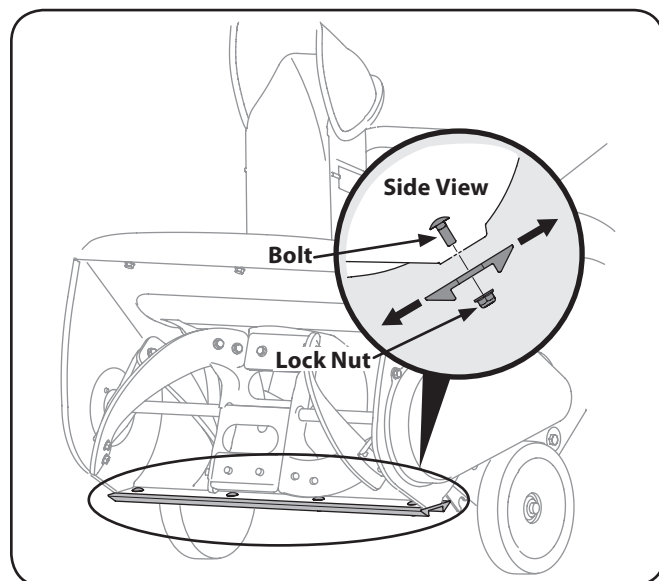

Figure 6-1
2. To adjust the shave plate, tip the snow thrower back so that it rests on the handle. Loosen the four lock nuts and bolts which secure the shave plate to the housing. See Fig. 6-1. Move the shave plate to the desired position and retighten the nuts and bolts securely.